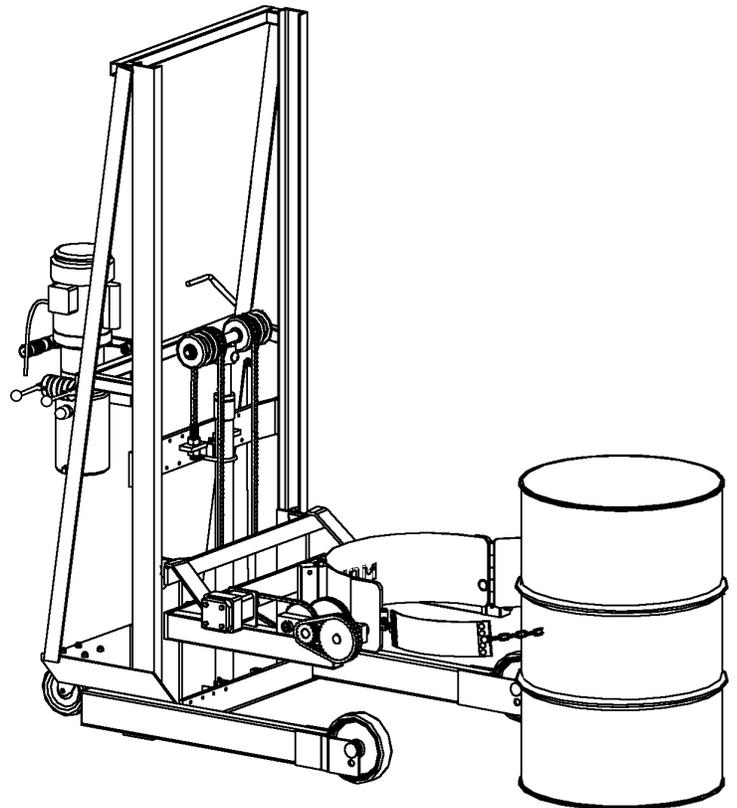

Figure 3.1
- 2.) Using the "LIFT" control as described in "2. Machine Description - Controls", position the drum holder assembly with the back band at the middle of the drum. (see Figure 3.1). With the ratchet plate swung open and the E14 strap hanging from the chain hook, push the unit until the back band rests firmly against the drum. Some adjustment to the tilt angle of the saddle may be necessary to ensure band fits flush on the drum. Engage the hand floor lock.